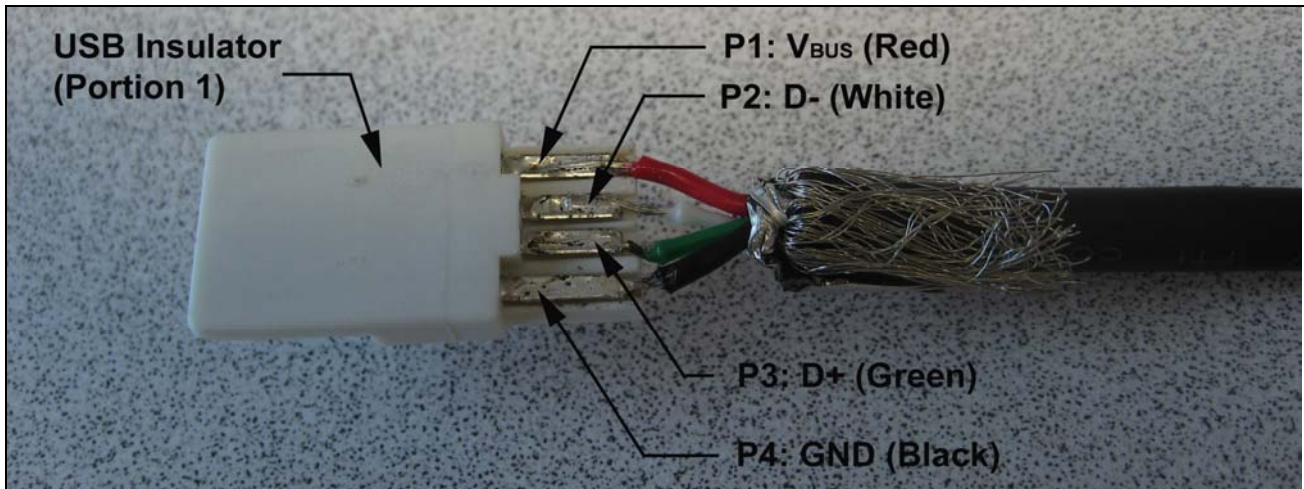

Figure 3-4: Layout showing the wires soldered to USB plug
Step 2: Solder the wires of the USB cable to the solder cups of the USB plug of the insulator portion 1 according to the Figure 3-4.